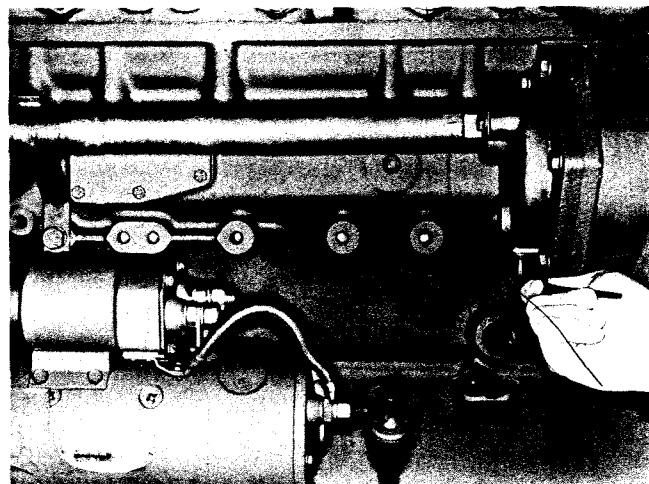
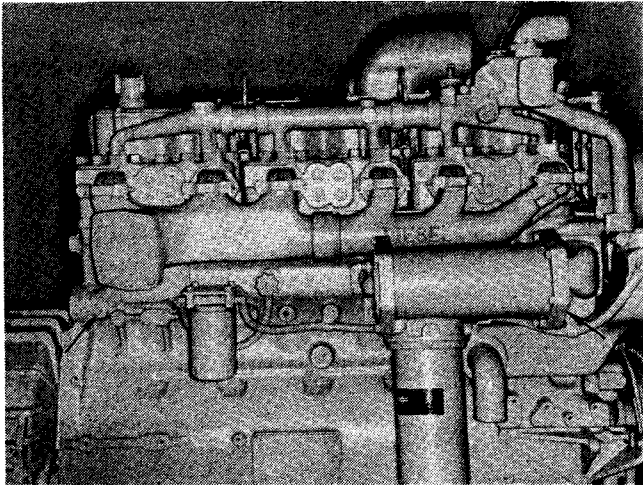

Fig. 1-11, (N100124). NH or NT-855 Cylinder block drain point
Fig. 1-12, (N100126). Super-250 Coolant drain points
2. To drain cylinder block and head on an Inline 855 Series Engine, open petcock in thermostat housing and remove drain plug in rear of oil cooler cover or at rear of block, Fig. 1-11. To drain a 927 Series Engine, open petcock in thermostat housing and remove two drain plugs, one in front of cooler and the other at rear of block, Fig. 1-12